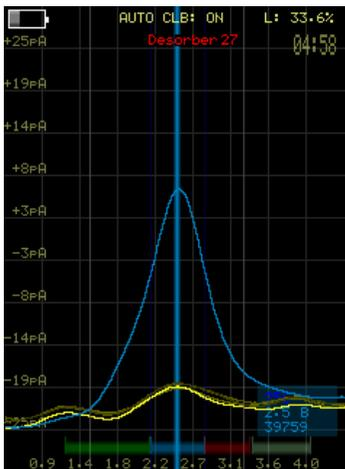

Figure 24 Countdown of the operation of the evaporation chamber desorber
- turn the desorber on by pressing on F_n button for entering device menu; press F_n again to startup desorber (Figure 24);